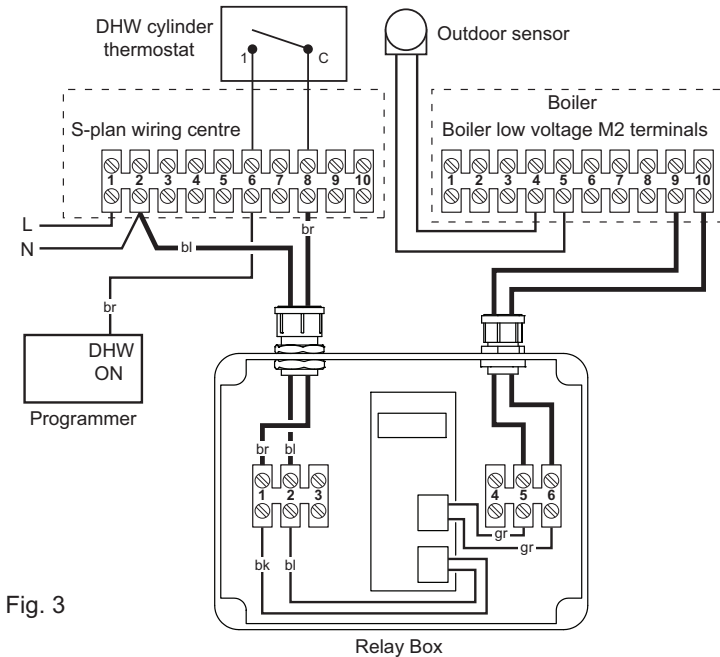

Fig. 3
1. Using a cable of 4 - 8mm overall diameter, connect the 230V connections between the S-Plan wiring centre and the Outdoor Sensor Relay Box via the large cable retaining gland. See Fig. 3.
4. Using a cable of 3 - 6.5mm overall diameter, connect the low voltage connections 5 & 6 in the relay box via the small gland. See Fig. 3. and route this cable to the boiler.